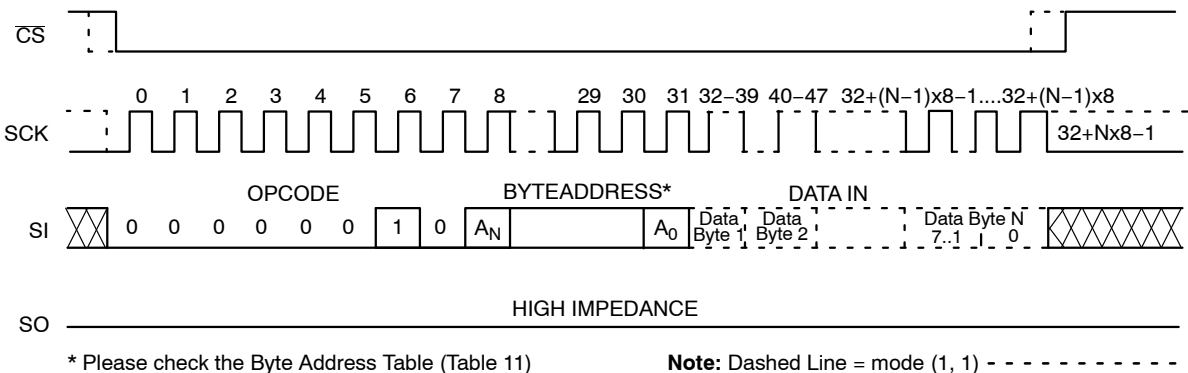

Figure 6. Page WRITE Timing
After sending the first data byte to the CAT25AM02, the host may continue sending data, up to a total of 256 bytes, according to timing shown in Figure 6. After each data byte, the lower order address bits are automatically incremented, while the higher order address bits (page address) remain unchanged. If during this process the end of page is exceeded, then loading will "roll over" to the first byte in the page, thus possibly overwriting previously loaded data.
The additional 256-byte Identification Page (IP) can be written with user data using the same Write commands sequence as used for Page Write to the main memory array (Figure 6). **The IPL bit from the Status Register must be set (IPL = 1) using the WRSR instruction, before attempting to write to the IP. Prior to any write to the Identification Page, the Write Enable Latch must be set (WEL=1) by sending the WREN instruction.**